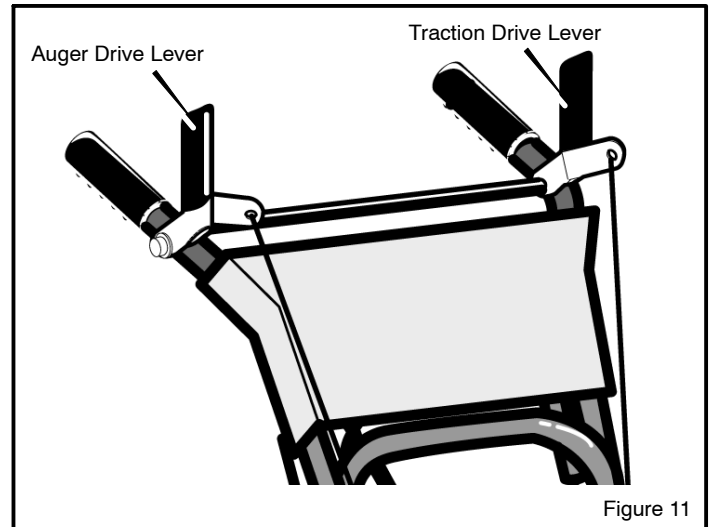

Figure 11
1. To stop throwing snow, release the **auger drive lever**. (see Figure 11).
3. Engage the **traction drive lever** (see Figure 11). As the snowthrower starts to move, maintain a firm hold on the handles and guide the snowthrower along the cutting path. Do not attempt to push the snowthrower.
1. Push down the **auger driver lever** (right hand). See Figure 11.